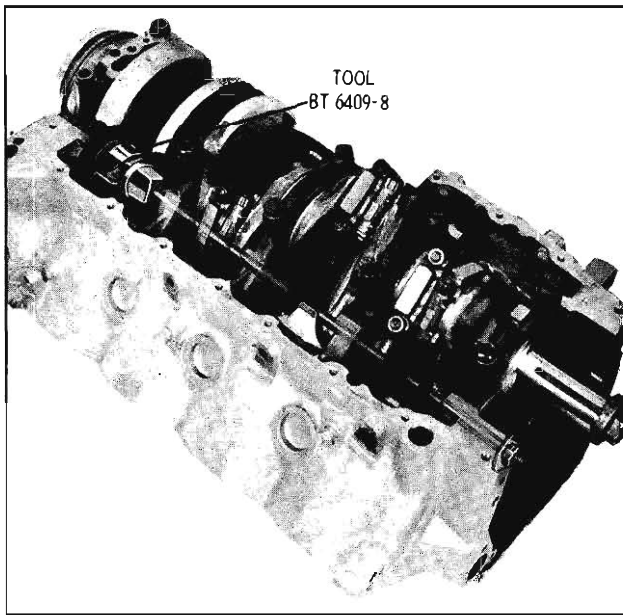

Fig. 3-445 Removing Rear Cam Bearing
4. To remove #5 bearing with engine in chassis, use puller BT-6409-8 as shown in Fig. 3-445.